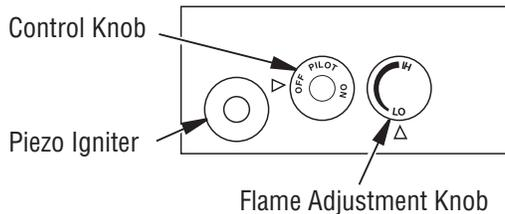

Figure 18 - Setting Control Knobs
4. Press in and turn control knob clockwise  to the OFF position (*see **Figure 18, Page 13***).
5. Wait five (5) minutes to clear out any gas. If you then smell gas, STOP! Follow "B" in the safety information in column 1. If you don't smell gas, go on the next step.
6. Press in and turn control knob counterclockwise  to the PILOT position. Press in control knob for five (5) seconds (*see **Figure 18, Page 13***).